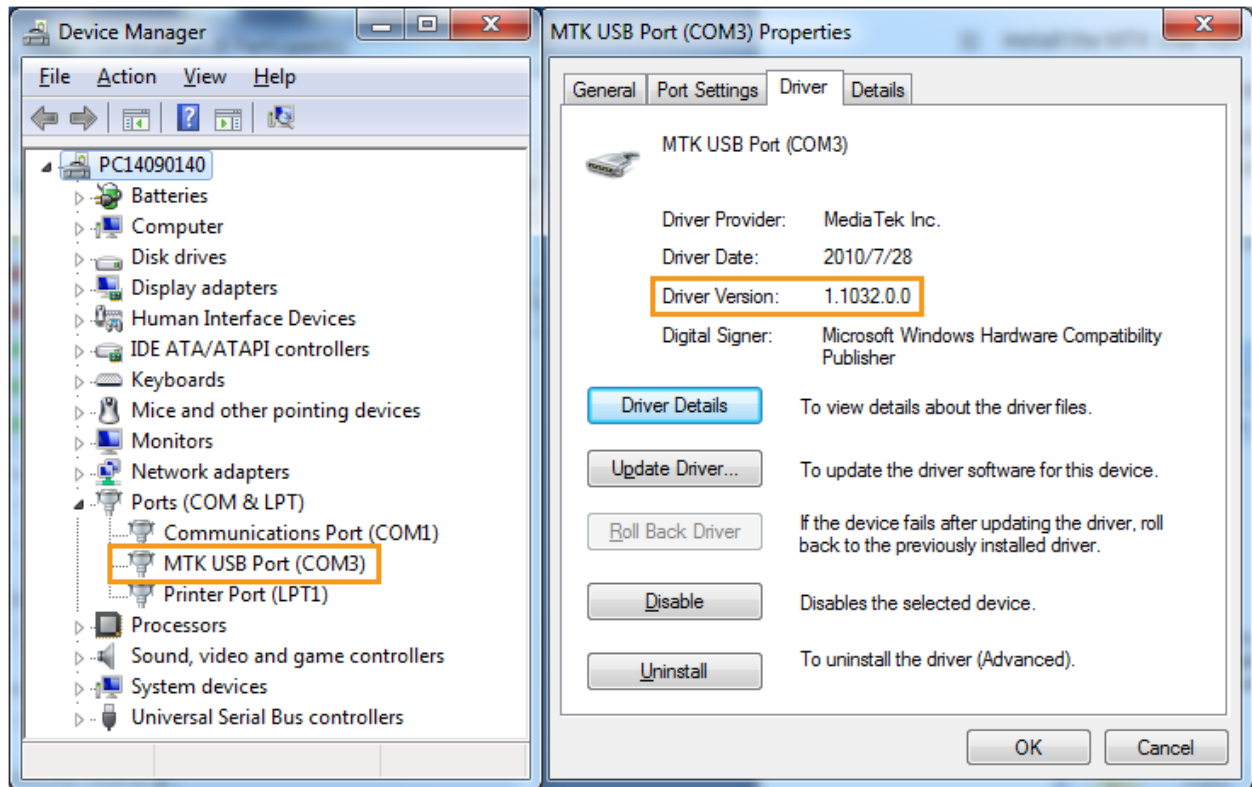

Figure 1. Installing the USB driver
- 2) In **Device Manager**, navigate to **Ports (COM & LPT)** and locate **MTK USB Port (COMx)**, as shown in Figure 1.